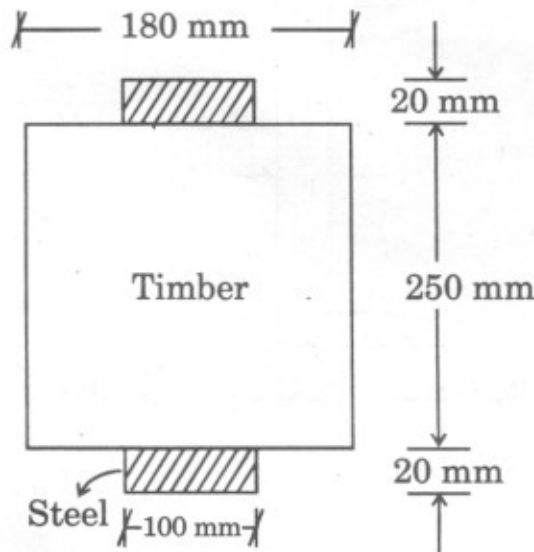

Fig. 4.2
- (b) A simply supported beam of 6 m span has the c/s as shown in Fig. 4.2. It carries an u.d.l. of intensity 18 kN/m throughout the span. If  $m = 15$ , calculate maximum stress in timber and steel. [8]